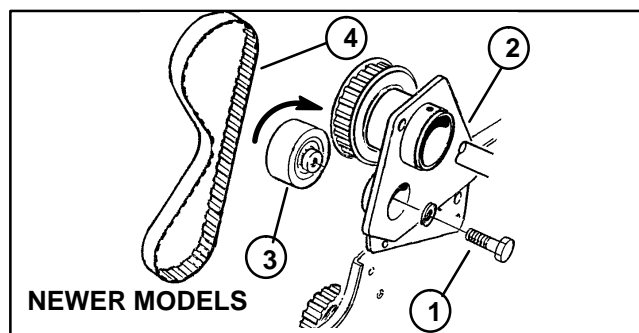

Figure 21
B. Loosen cap screw on clutch housing. Pivot idler pulley counterclockwise (arrow direction) to loosen reel drive belt. Remove reel drive belt (Fig. 21).
A. Pivot idler pulley clockwise (opposite arrow direction) to tighten reel drive belt. Tighten belt from 20 to 25 lb (89 to 111 N) of force. Tighten cap screw on clutch housing. (Fig. 21).